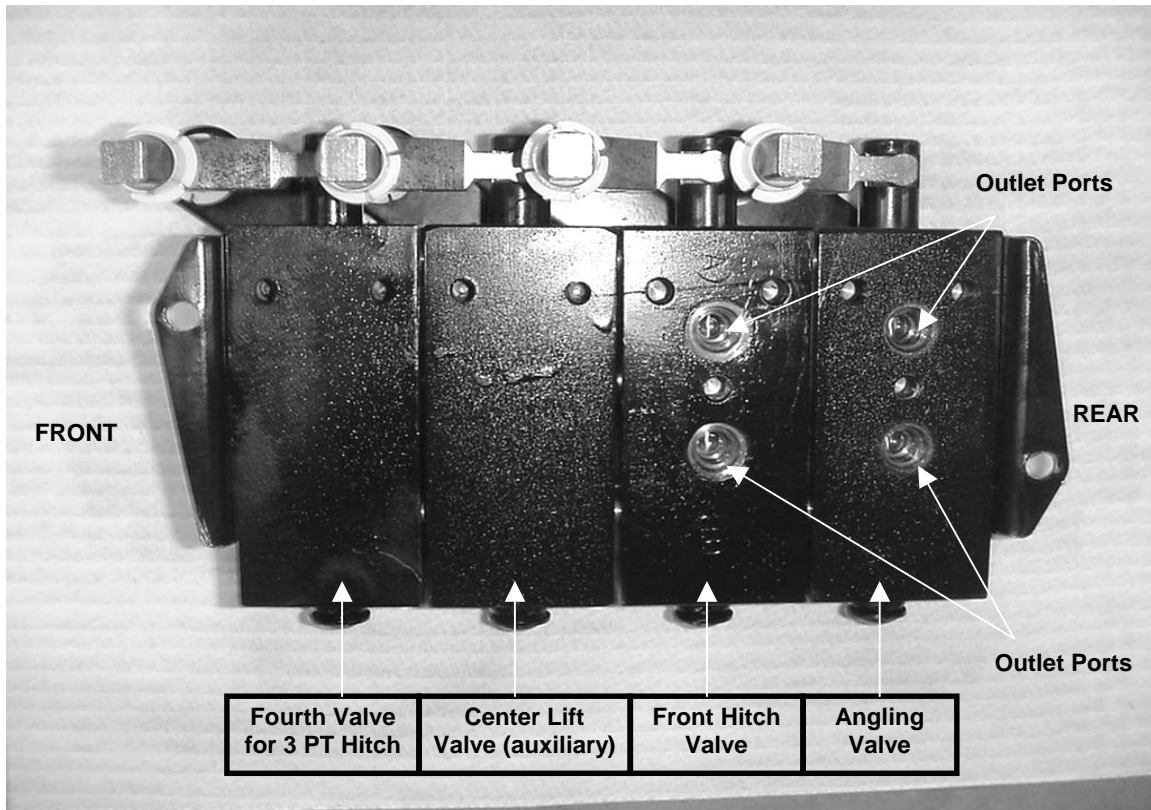

FIGURE 6
- G) Follow the installation instructions from the Operator's Manual that came with the optional attachments to assemble the valves. Refer to the picture in figure 6 to verify proper assembly. If existing O-rings were damaged during disassembly, use the Back-up O-rings (C) and O-rings (D) from the service kit. Use the four 1/4 inch Hex Cap Screws (B) and four 1/4 Hex Lock Nuts (M) from the service kit to assemble the four valves together along with the mounting brackets previously removed.